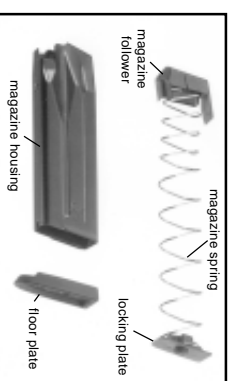

Figure 11A Assembly of Magazine Follower & Spring
3. Place the locking plate onto the protruding end of the magazine spring so that the locking detent is visible (see Figure 11A).